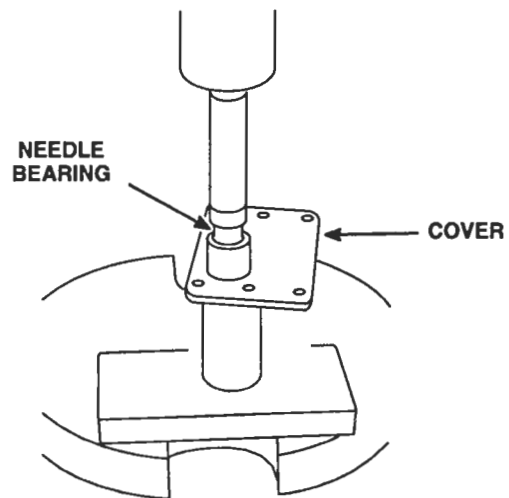

Figure 11. Installing Needle Bearing in Governor Cover
1. If new needle bearings are to be installed in the governor cover, place the governor cover on the bed of an arbor press with the inner face of the cover down. Start a new needle bearing straight into the bearing bore of the cover with number on the bearing up. Then insert bearing installer J 21068 in the bearing and press the bearing in until the shoulder on the tool contacts the cover (Figure 11.)